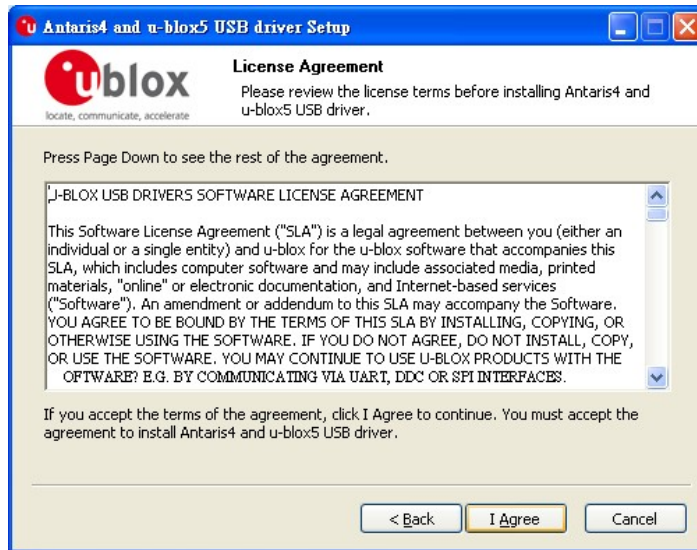

Figure 5-32: GPS Driver Choose Install Location
Step 6: The license agreement in **Figure 5-32** appears.